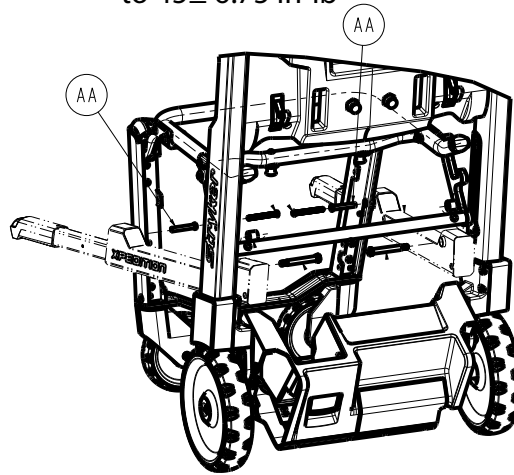

Figure 18 –
5. Using a 1/8" hex driver, remove the lower handle flanged sleeves (AA) (Figure 18) that secure the lower handle assemblies to the front caster assembly. Save the lower handle flanged sleeves.